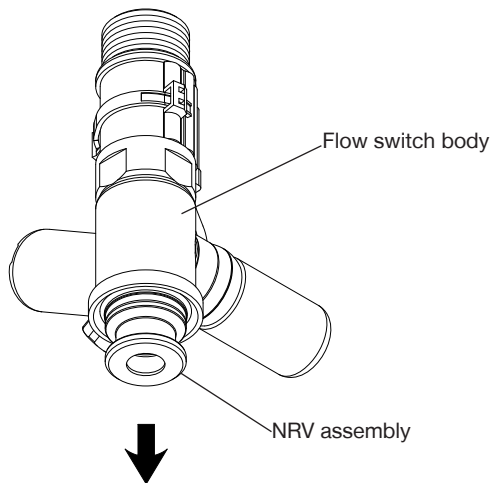

Fig. 38
- Remove 'O'-ring (item 8) from between pump body and flow switch assembly.
- Firmly pull the NRV assembly (item 23) from the lower end of the flow switch body assembly (Fig. 38).